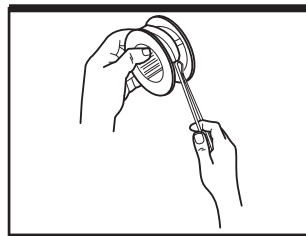

Fig. 18c
7. Cut a new 6 m long trimming line with a diameter of 2 mm. Form a loop at the middle of the line and insert this loop into the hook on the spool. (See Fig. 18c)